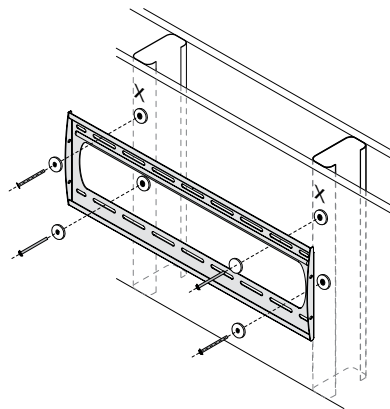

Figure 23. Inserting Steel Stud Anchor Screws
14. Insert a steel stud anchor screw and a 5/16" washer into each steel stud anchor sleeve (Figure 23).